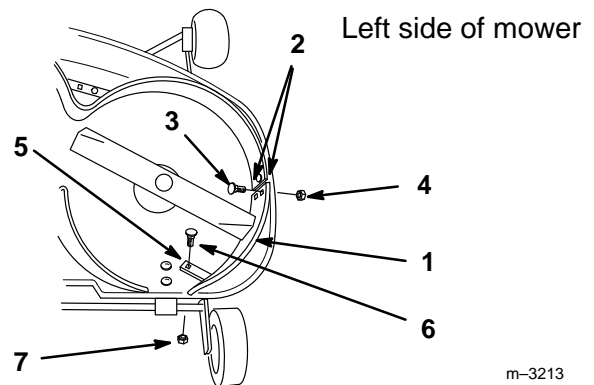

Figure 8
2. Using the baffle as a guide, drill (2) 11/32" holes in the left side of the mower (Fig. 8).
3. Place (2) 5/16-18 x 3/4" (19 mm) carriage bolts through baffle, with heads on the inside. Secure with 5/16" locknuts (Fig. 8).
4. Using the baffle as a guide, drill a 13/32" hole at tab (Fig. 8).
5. Locate rear left baffle tab over drilled hole and install new 3/8-16 x 1" (26 mm) carriage bolt, with head on the inside. Secure with 3/8" locknut (Fig. 8).